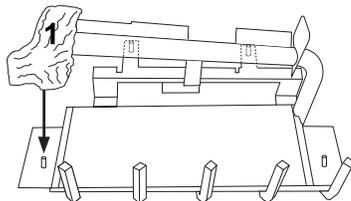

Figure 40 - Installing Log No. 1
1. Place log #1 (base log) onto pin on left side of burner as shown in Figure 40.